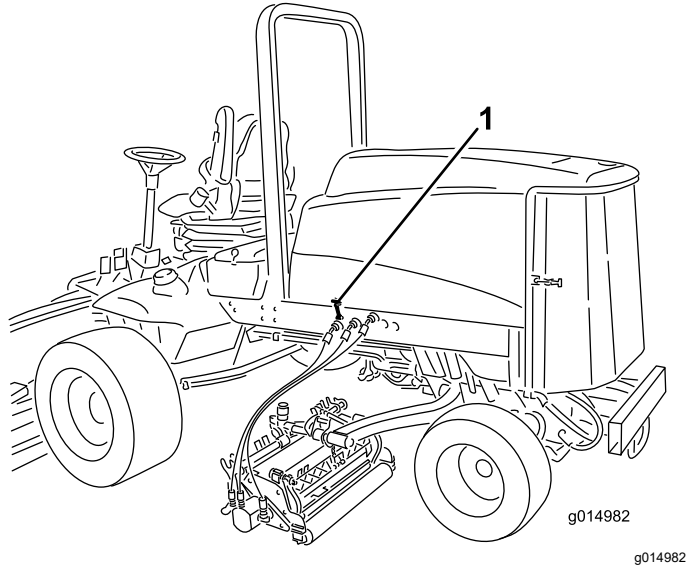

Figure 42
1. Release hood latches (Figure 42) and pivot open the hood.